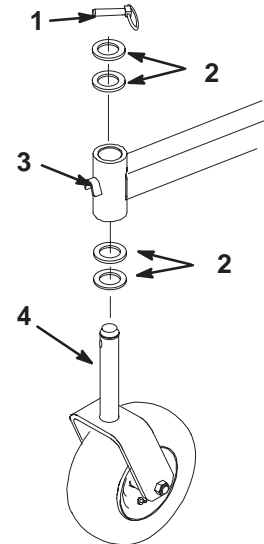

Figure 64
2. Remove the locking pin and spacer(s) from the top of the castor wheel fork (Fig. 64).
6. Inspect the castor wheel fork for wear and replace if necessary (Fig. 64).
7. Slide the castor wheel fork through the bushings in the mounting tube. Replace the spacer(s) onto the fork and secure with the retaining ring (Fig 64).